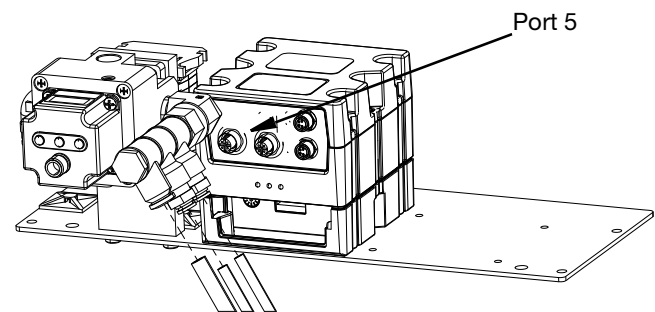

FIG. 8
4. Disconnect connector from port 5 on FCM 1. See FIG. 8.